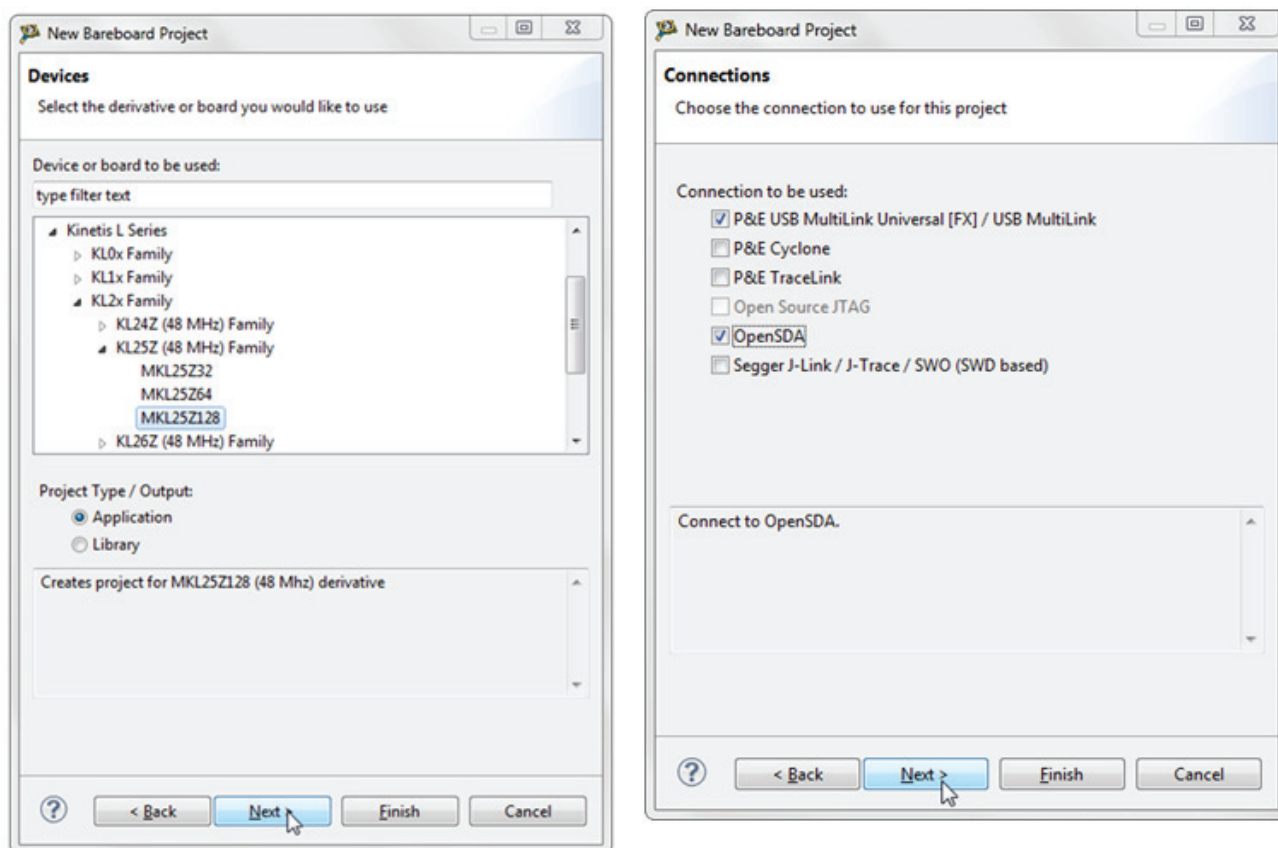

Figure 11. Select the MCU Class and Connections
2. Choose the MCU class to be used in the freedom MCU board (MKL25Z128 in this example). Then select the connections to be used (see Figure 11).